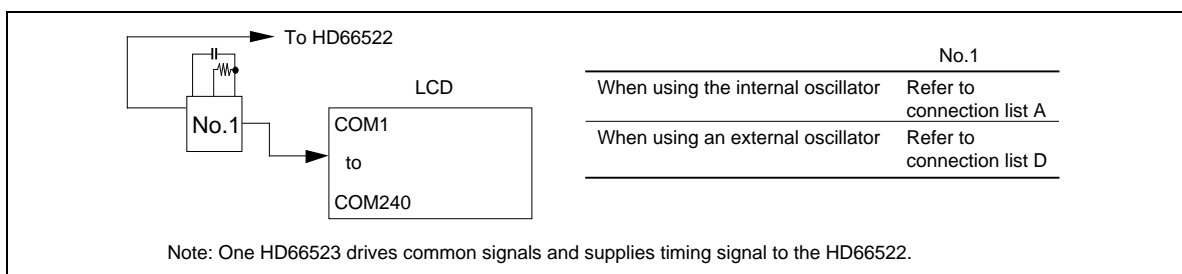

Figure 5 System Configuration When Using a Single HD66523
The HD66523 system configuration is outlined in Figure 5 and 6. Refer to the connection list (Table 4) for connection details.
- When a signal HD66523 is used to configure a small display (Figure 5)